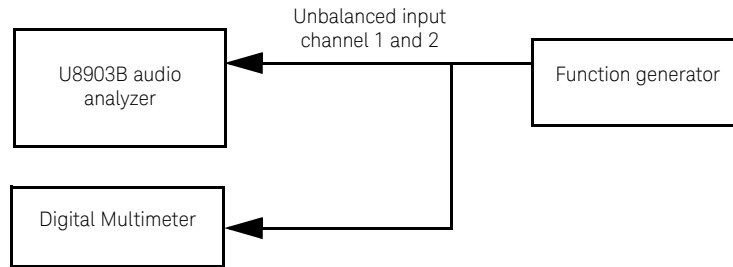

Figure 3-7 Function generator to U8903B and digital multimeter for wideband sine wave flatness verification
- 1 Connect the function generator to the U8903B Unbalanced input channel 1 to be tested and to the digital multimeter via the connection as shown in **Figure 3-7**. The BNC-to-banana jack adapter and the BNC male-to-female T splitter is used for this connection. Preset the U8903B, digital multimeter, and function generator.